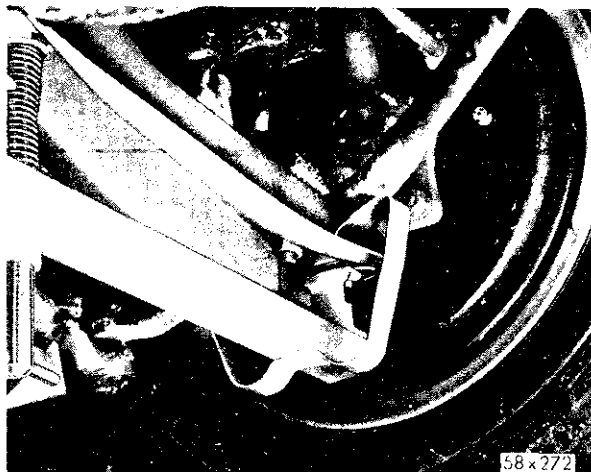

Fig. 1—Height and Level Gauge in Position on Right Side
(1) Clean the lower control arm ball joints and the control arm bushing housings.
(2) With the measuring pins of Tool C-3608 retracted, latch the tool retaining springs securely to the flanges of the control arms, making sure that the stop pads on the ends of the tool are in contact with the cleaned area of the ball joints (Figs. 1 and 2).
(3) Carefully unlatch the measuring pins and